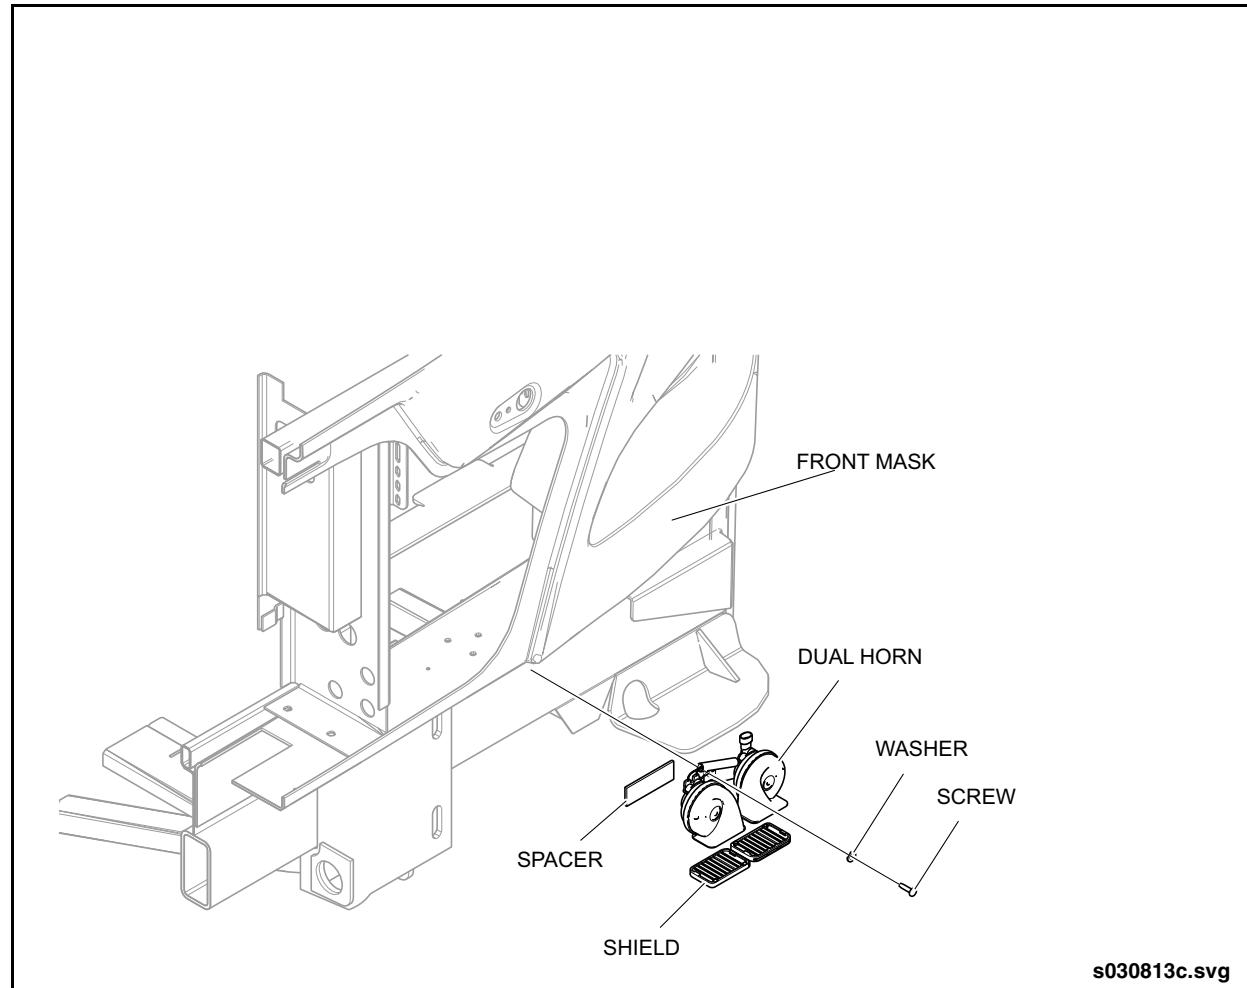

Fig. 9-59: Horns Installation
- Two electric horns are mounted on the front bulkhead plate. Each horn is carefully adjusted and inspected during manufacture and should operate indefinitely without attention. If a horn does become inoperative, it must be replaced. See "Fig. 9-59: Horns Installation" on page 93.